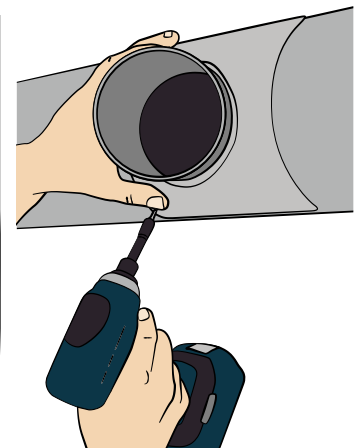

FIG. 19e
- Secure the Saddle Tap Wye to the pipe with self-tapping screws or pop rivets, starting with the end at the bottom of the egg shaped hole. Secure in place at a minimum of four locations [FIG. 19e].